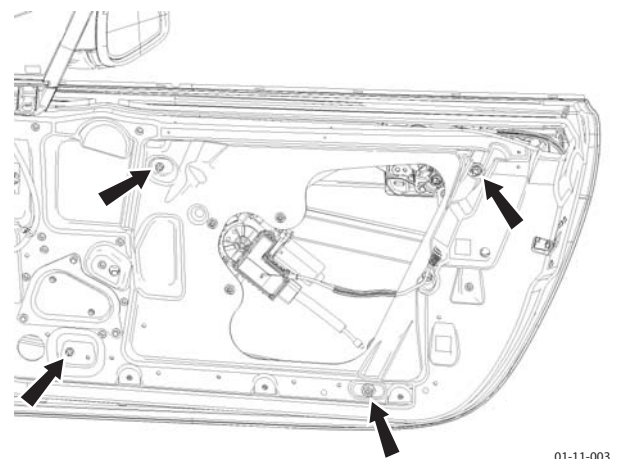

Figure 2
8. Remove nuts (x4) securing door glass regulator mechanism (see Figure 2).